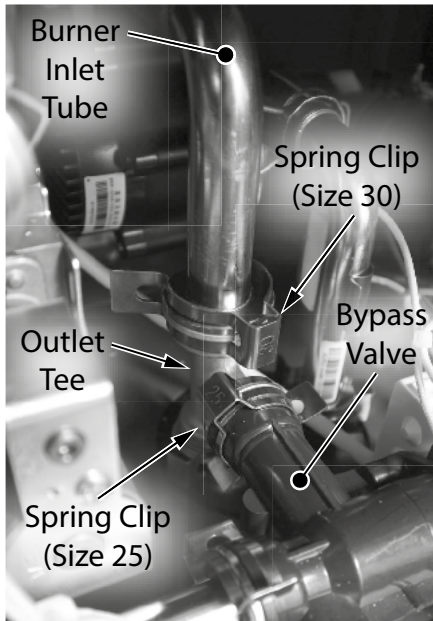

Figure 4 - Remove two spring clips from outlet tee
- 13 Locate the outlet tee connected to the bypass valve and burner inlet tube as shown in Figure 4 on the following page. Remove the large spring clip (size 30) securing the outlet tee to the burner inlet tube. Remove the small spring clip (size 25) securing the outlet tee to the bypass valve. Place spring clips aside in a safe place for reinstallation. **DO NOT** remove spring clip securing outlet tee to cartridge manifold.